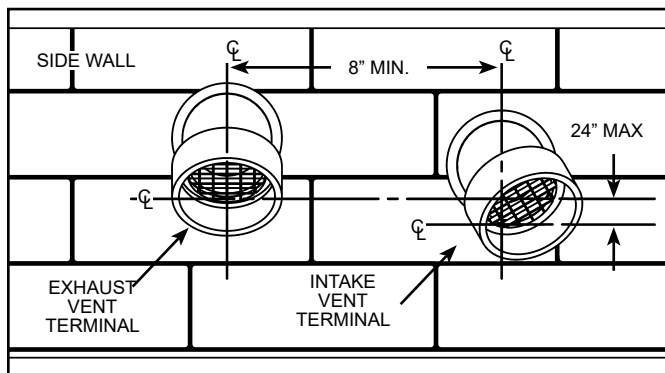

Figure 19.
Important: When terminating the vent on a side wall, the following specifications pertaining to terminal location must be followed (see Figure 19).
4. To avoid exhaust recirculation, the air intake terminal may be rotated away from the exhaust vent terminal (see Figure 19).